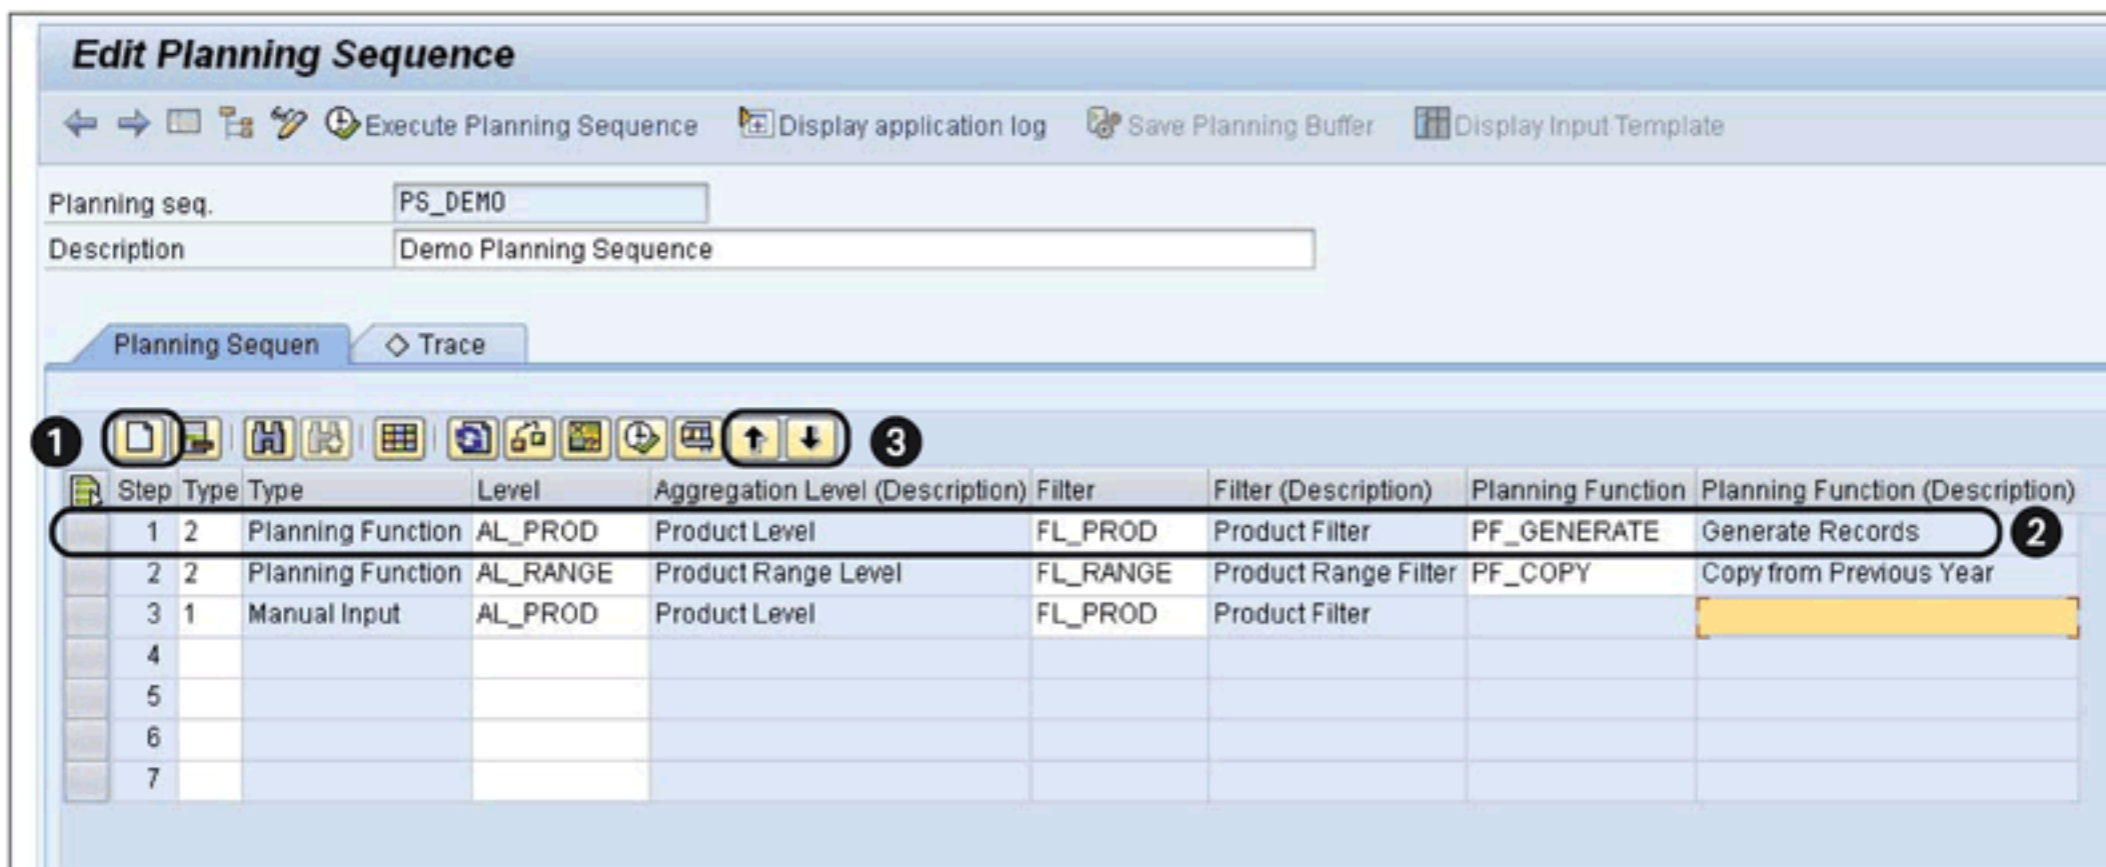

Figure 12.53 Defining Planning Sequence
In the next screen, define the planning sequence by adding planning functions and defining the sequence of execution (Figure 12.53). By clicking on the CREATE button (1), you can add a new step in the planning sequence.